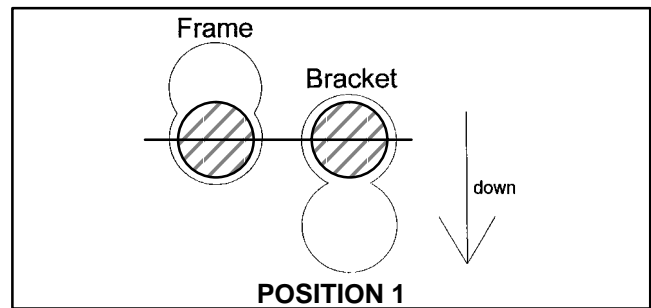

Figure 27
**Position 1:** The **least aggressive position** is used for very soft and tender turf, or the highest height-of-cut (Fig. 27).